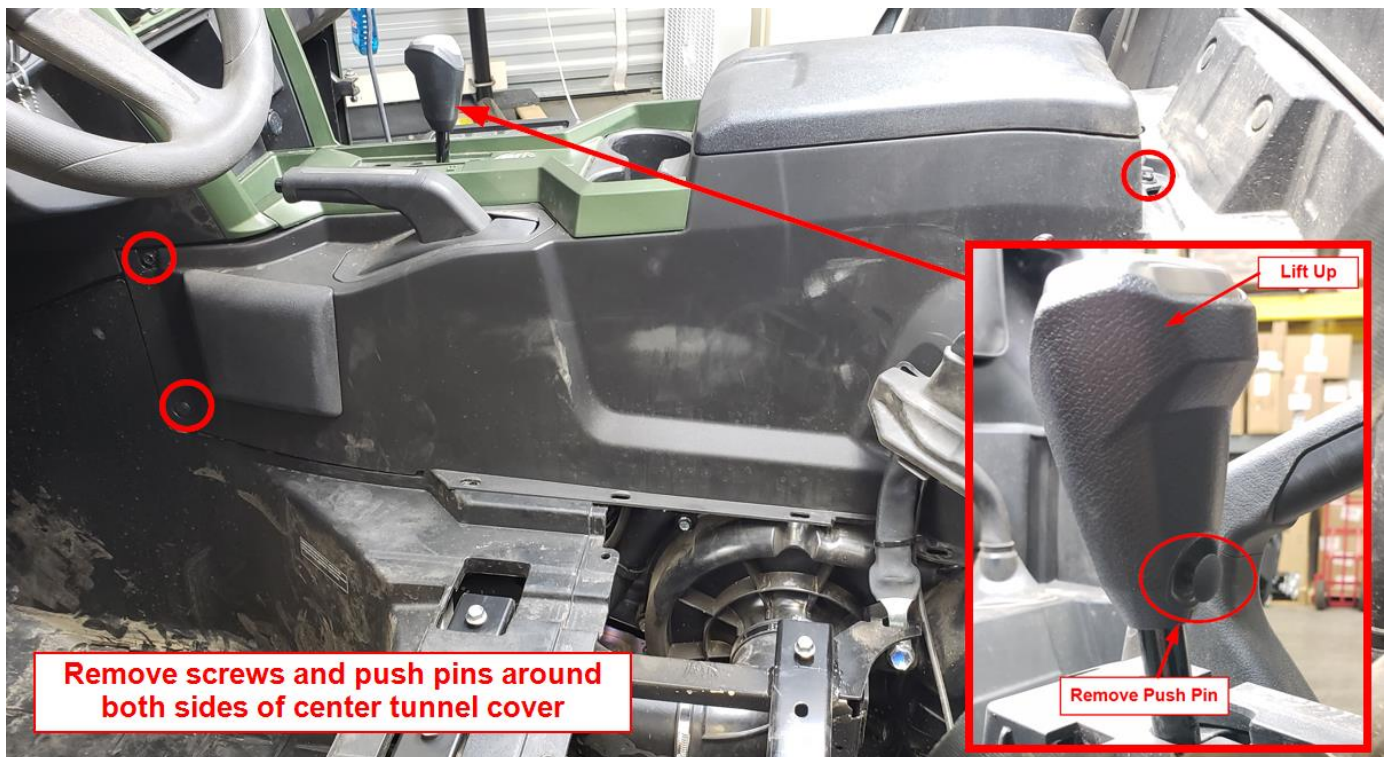
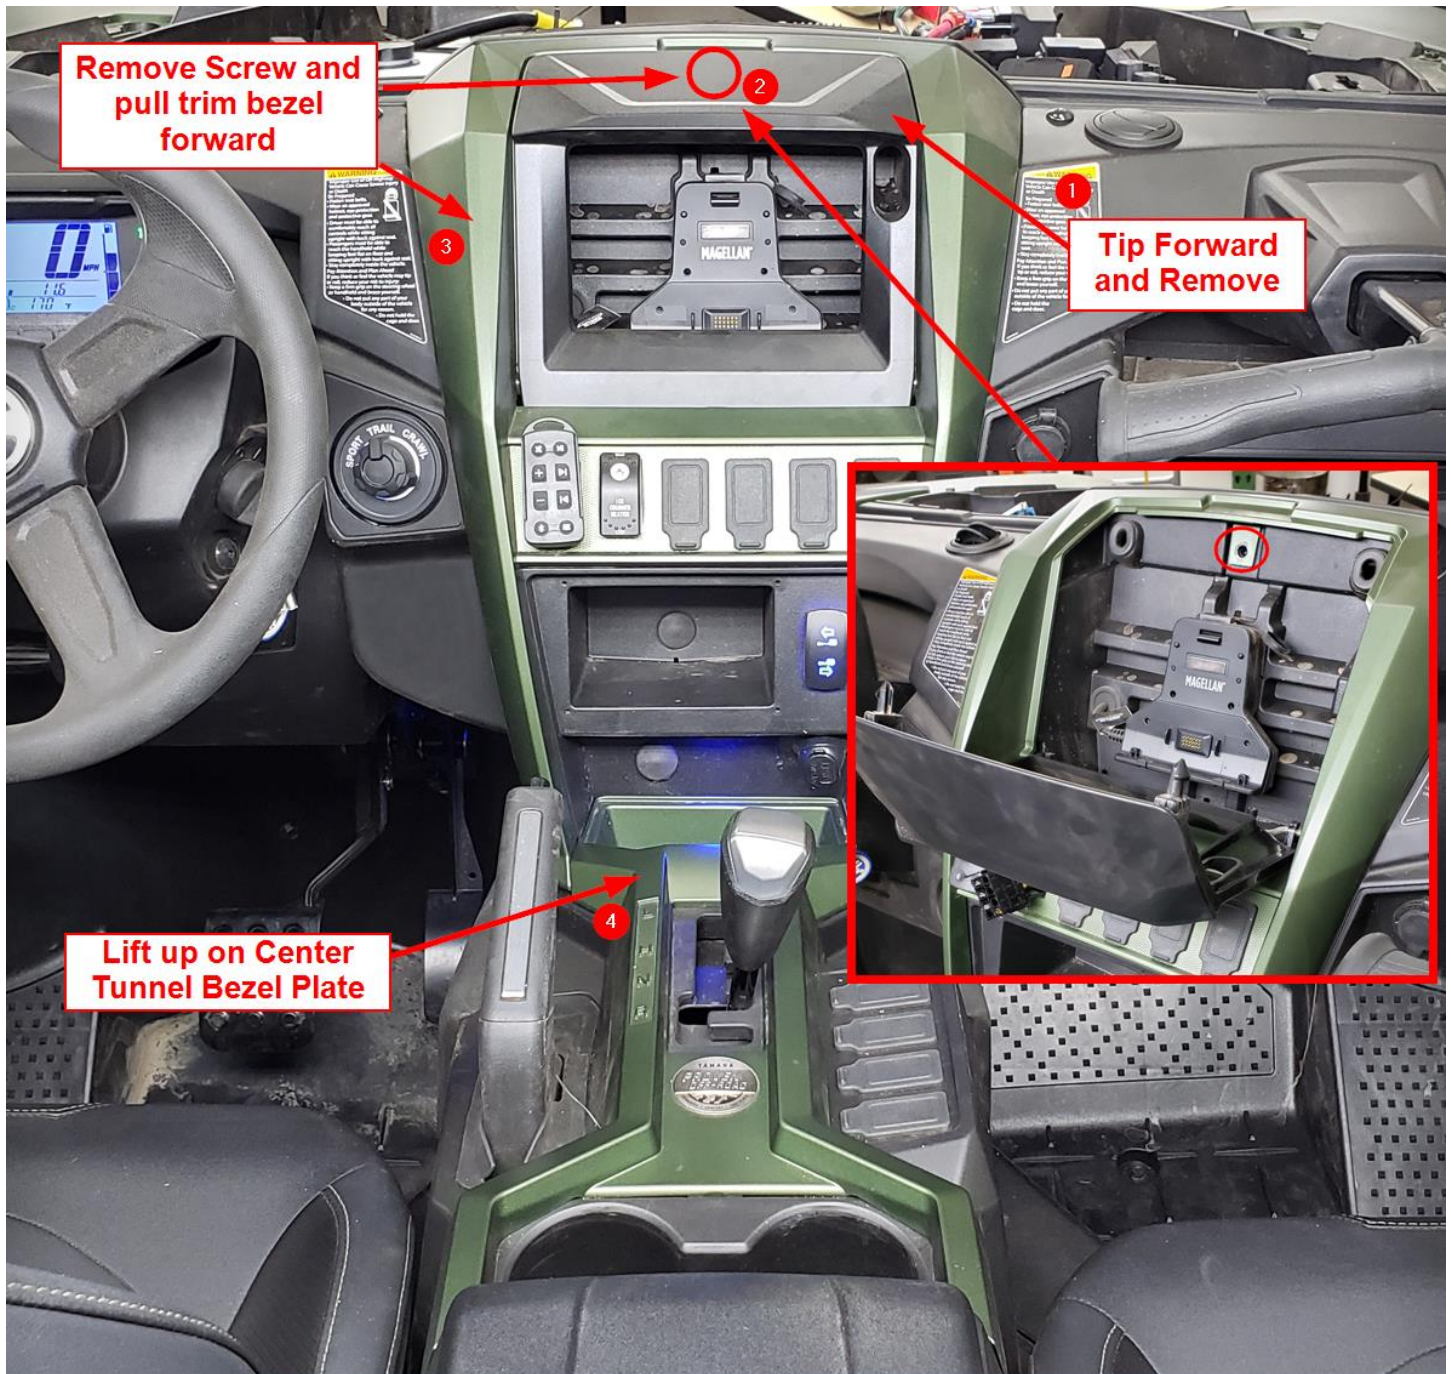

Figure 9
Figure 10
- g. Remove the Shift knob, Center Tunnel screws, Center Tunnel Bezel plate, Center Dash Bezel as shown in Figure 9 and Figure 10.